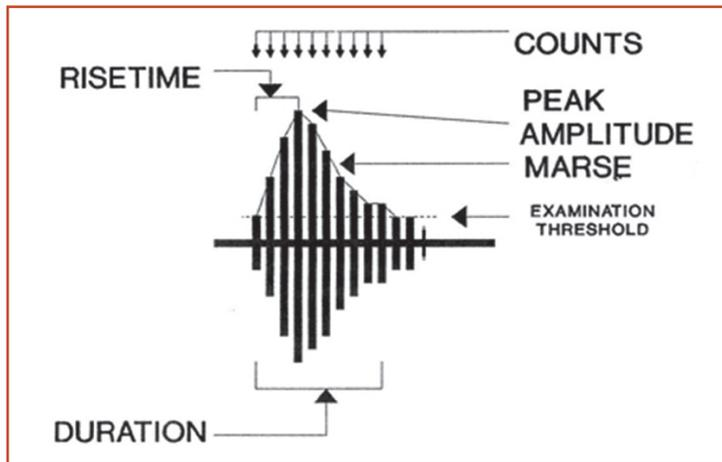

Figure 1: An illustration of MARSE
**MARSE:** Stands for measured area under the rectified signal envelope, which can be clearly seen in Figure 1.